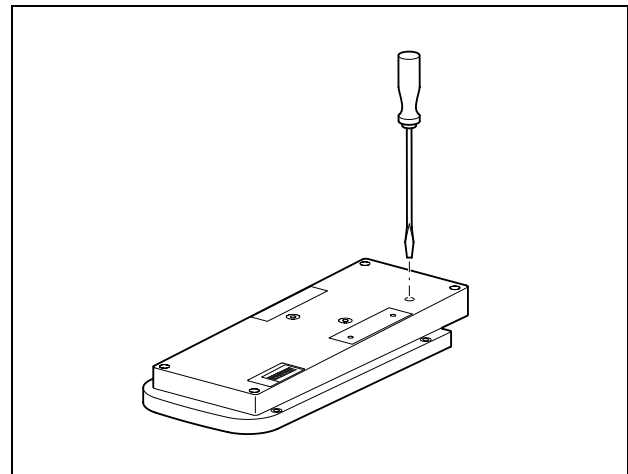

figure 5.1: Adjust the output volume
- 1 Use a screw driver to adjust the output volume of the call station. Turn clockwise to increase the output volume or turn counterclockwise to decrease the output volume. See figure 5.1.